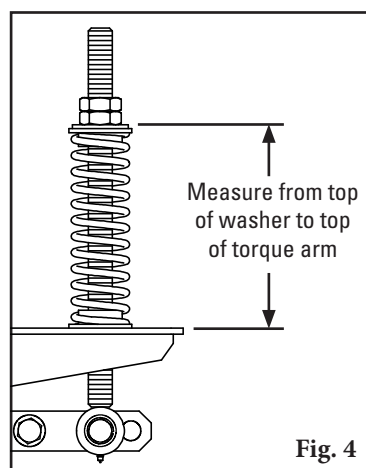

Fig. 4
4. **Reset the correct blade tension.** Refer to the charts below for the spring length. Lightly pull the pivot arm toward the end of the torque arm slot nearest the pole and turn the adjusting nuts until the required spring length is achieved (Fig. 4). Tighten jam nut.